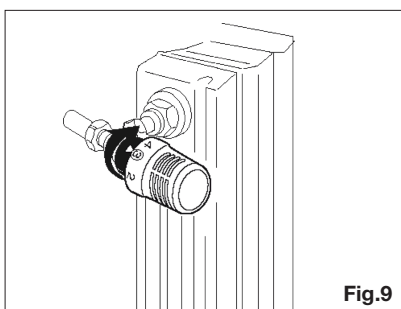

Fig.9
- 4) Tighten the nickel-plated ring-nut by hand as far as it will go (**Fig.9**).